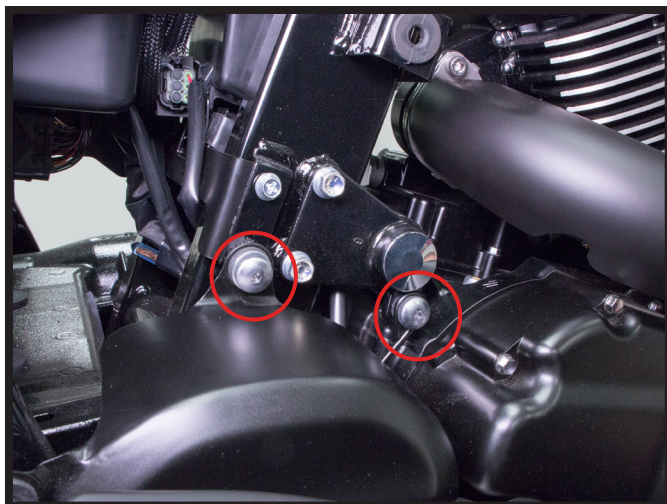

FIGURE 7
3. REMOVE THE TWO SCREWS CIRCLED IN IMAGE 7 AND THE SWING ARM PIVOT COVER. REMOVE THE SCREW CIRCLED IN IMAGE 8 AND DISCARD. THIS SCREW WILL NOT BE REUSED. (FIGURES 7, 8)